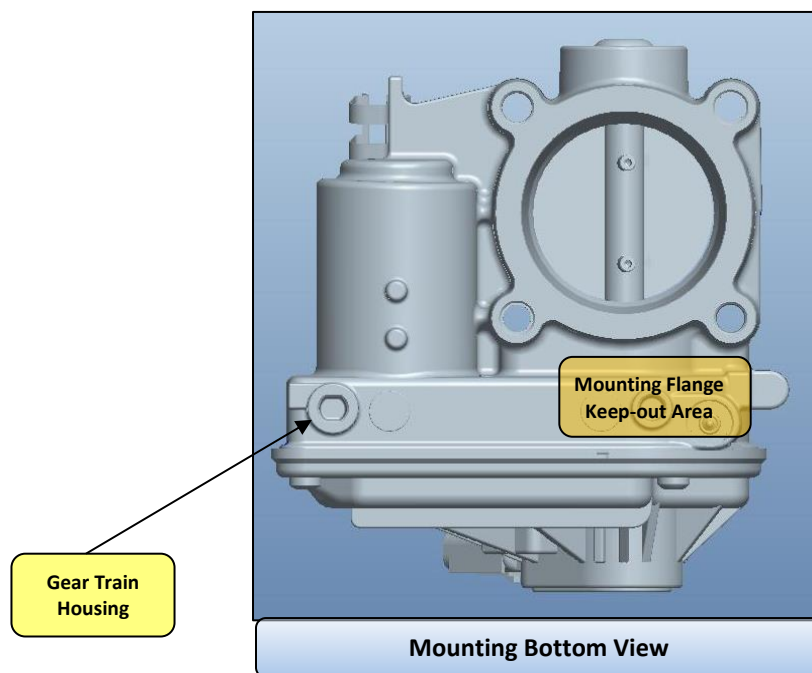

Figure 4-2. Mounting Flange Keep-Out Area
6. In order to reduce interference during throttle mounting, the customer-designed mounting flange shall not touch the gear train housing (marked as "Mounting Flange Keep-out Area" in **Figure 4-2**). Interference may cause an air leak.